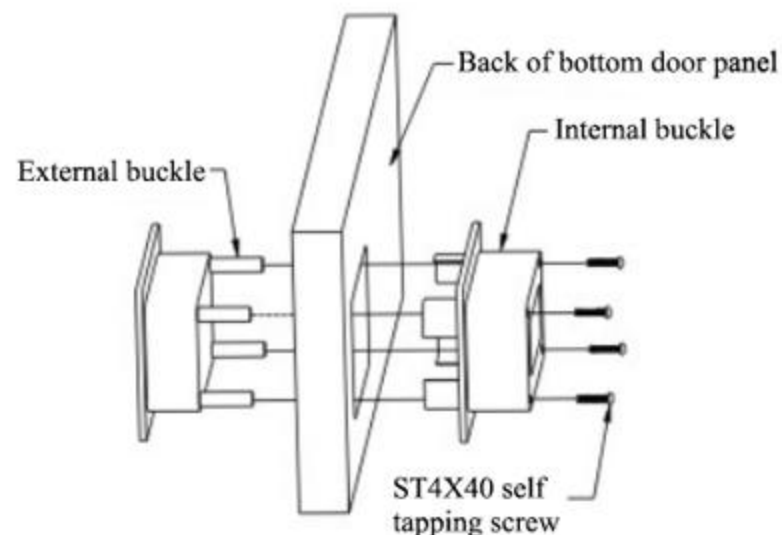

Figure 10-1
10. Installation of industrial door handle (Figure 10-1)